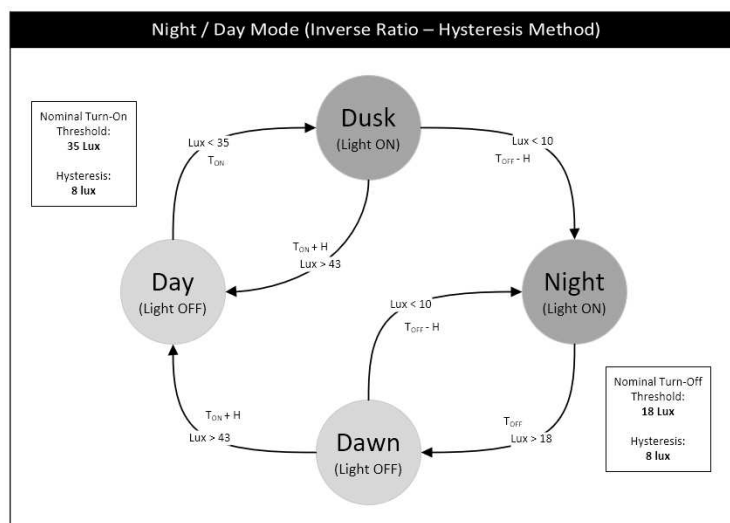

Figure 9 - Inverse Ratio Operation and Hysteresis
B. Align the Module over the mounted receptacle. Based on polarizing features on each, the Module can only be installed in one position. Lightly rotate the Module until you feel the alignment keys and the blades align to the proper location. After alignment, push downward until the Module is bottomed on the receptacles mating face. Then complete mating by rotating Module with downward pressure while twisting in a clockwise direction. The Module or Sealing Cap will lock into position with an audible 'click'. To un-mate, gently push down and reverse the aforementioned mating process. See Figure 9.